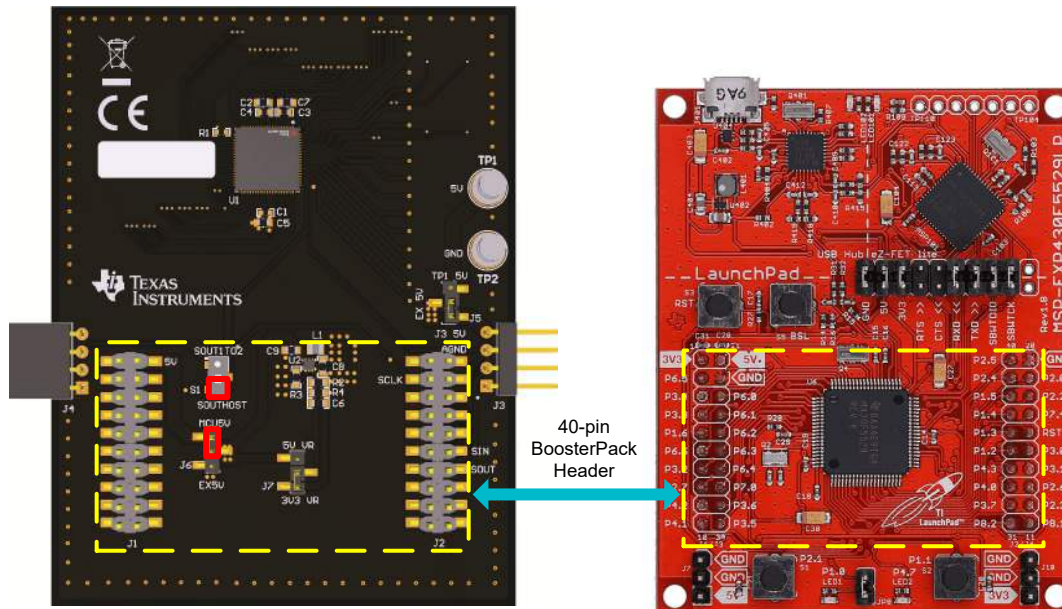

Figure 3-2. Single LP5890EVM Connected with the MSP430F5529 LaunchPad
- b. Put the J6 jumper on "MCU5V" and the middle, and set the switch S1 towards "SOUTHST" , which are marked with red boxes in Figure 3-2.
- c. Connect BoosterPack connectors (J1, J2) on the LP5890EVM with the MSP430F5529 LaunchPad, the connection method is shown in Figure 3-2.